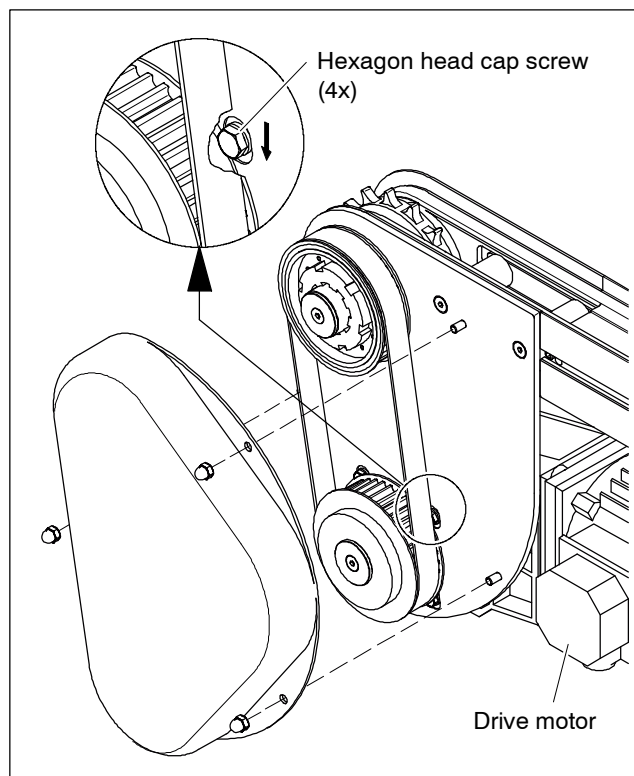

Fig. 33: Moving drive motor
- Undo hexagon head cap screws (4x), see Fig. 33.